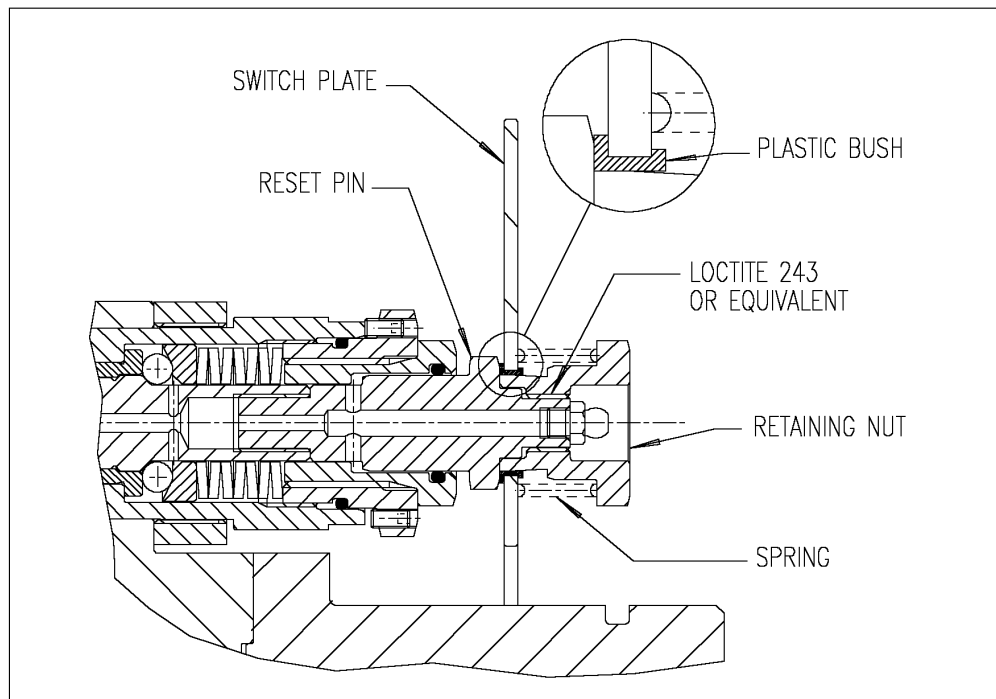

Fig.5 Typical switch plate mounting
9.1) Some units are fitted with a limit switch plate. A typical arrangement is shown in fig .5. Refer to the specific assembly drawing for further detail. To remove the switch plate, use a spanner on the reset pin flats (behind the switch plate) to prevent rotation, and remove the retaining nuts, taking care to retain the springs and plastic bushes.